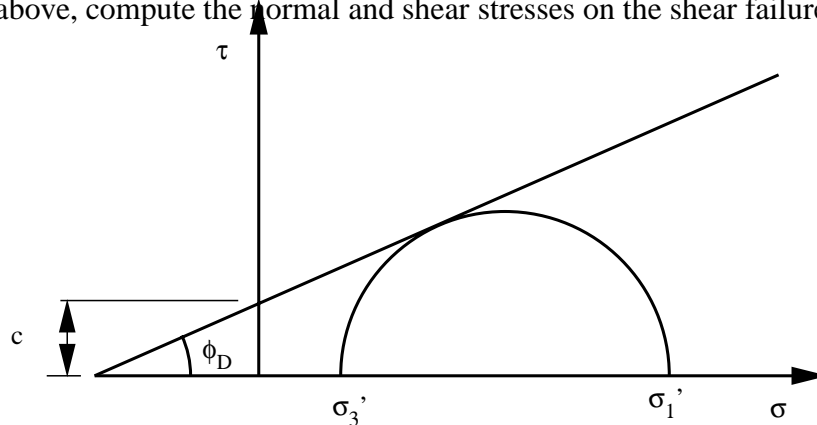

Figure 1. Mohr-Coulomb failure envelope and Mohr's circle for CD triaxial compression tests.
- a. Using the Mohr's circle and Mohr-Coulomb failure geometry shown below in Figure 1, find a relationship between σ'_1 and σ'_3 at shear failure in terms of the cohesion c and friction angle ϕ_D . **To receive credit, show all work.**